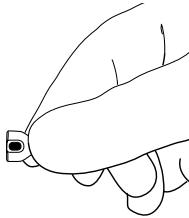

Figure 13. Grasping the tapered portion.
1. With a thumb and forefinger, grasp the tapered portion of the sutureless pump connector (Figure 13).